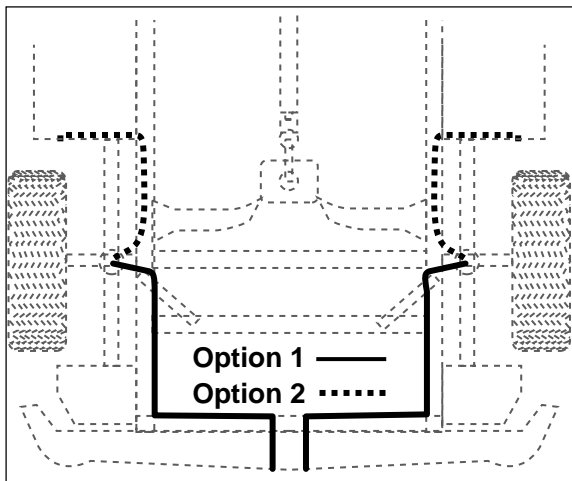

Figure 4 - DUAL AIR LINE
- E. Route air line along frame or under fender panel to desired inflation valve location (Figure 4). Attach air line to chassis with plastic straps or wire.
5. If it is ever suspected that the air bags have bottomed out, increase the pressure (fig. 4).